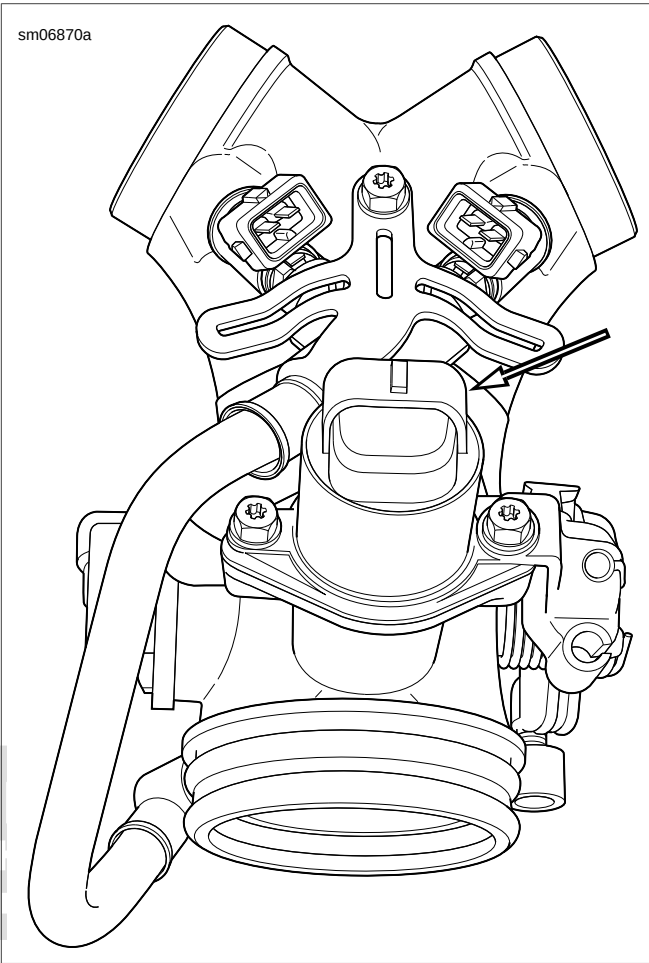

Figure 4-50. IAC: XR 1200X
**XR 1200X:** See Figure 4-50.